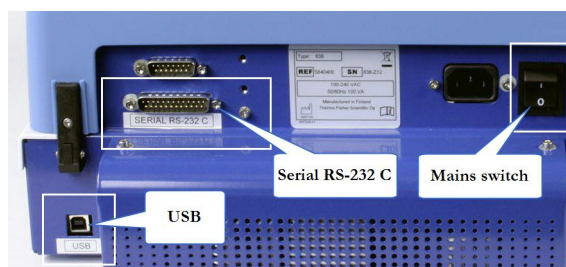

Figure 2-1. Computer and mains power supply connectors in the instrument
3. Connect the other end of the cable to the SERIAL RS-232 C connector (Figure 2-1 ) on the back panel of the instrument.
2. Connect the instrument to the workstation using a USB cable (see Figure 2-1).